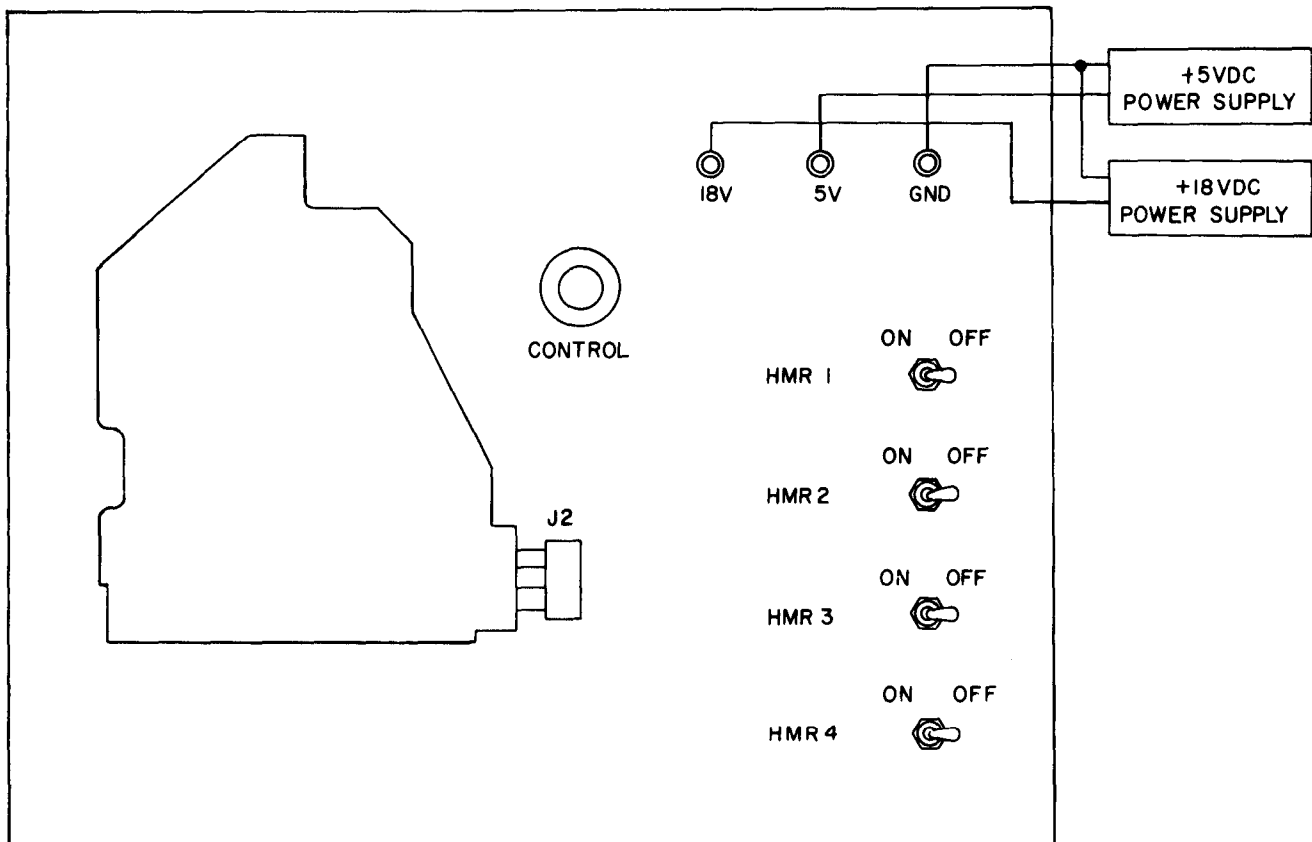

Figure 6-16. HAMMER MODULE TEST SETUP.
c. Test Setup Procedure for Hammer Module (fig. 6-16).